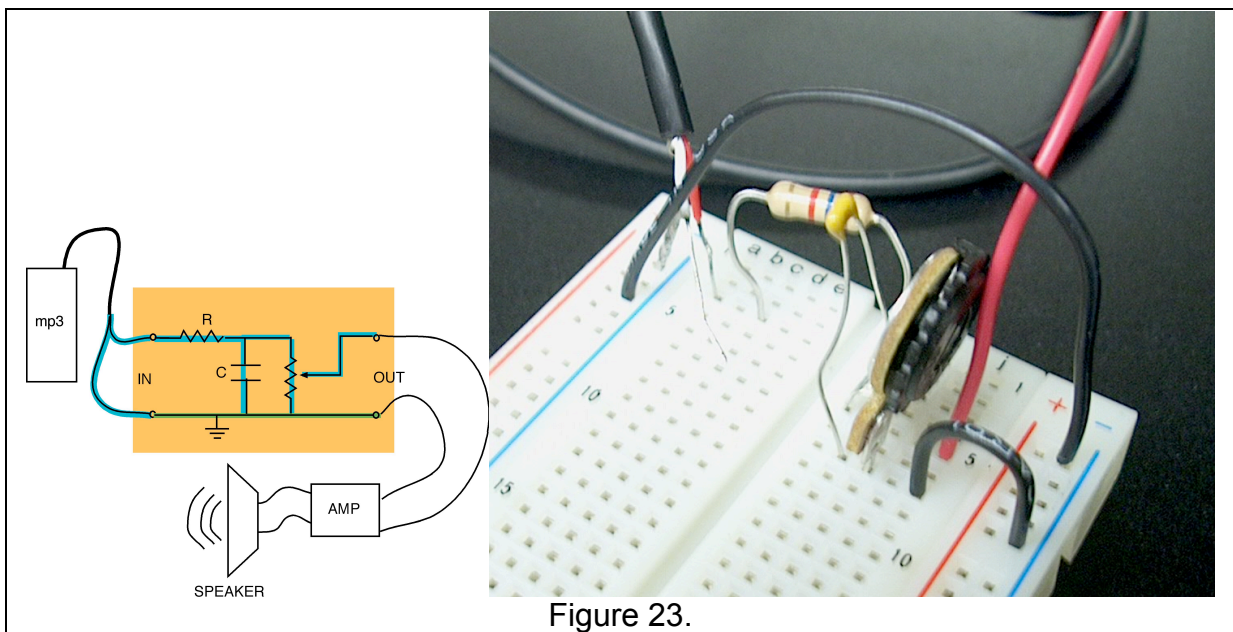

Figure 23.
- The last thing to connect is the grounds. We have a ground bus on the left side of the circuit board, but we need to connect from ground to the output, too, so it would be handy to have another ground bus. So, using a piece of black hookup wire, connect the original ground bus to another bus on the other side, Figure 23.